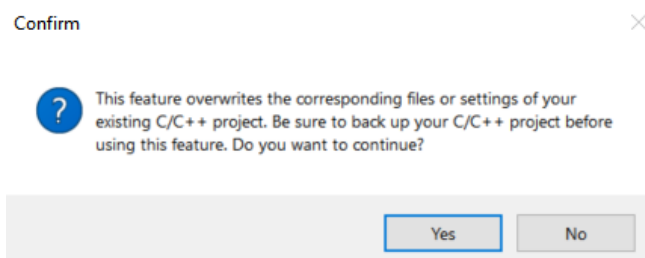

Figure 9.11. Confirm the Changes
13. Click **Yes** as shown in Figure 9.11 and the update window closes.